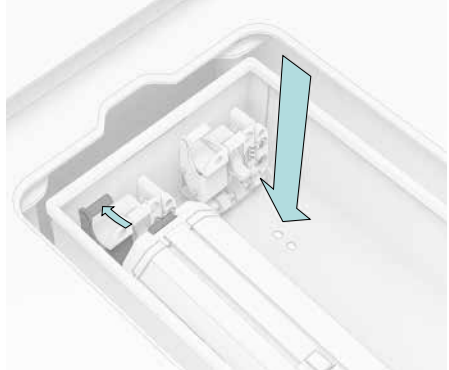

Fig. 24
2. Pull release lever 1 toward the rechargeable battery. Guide the rechargeable battery into the mount until it clicks in with an audible click (Fig. 24).